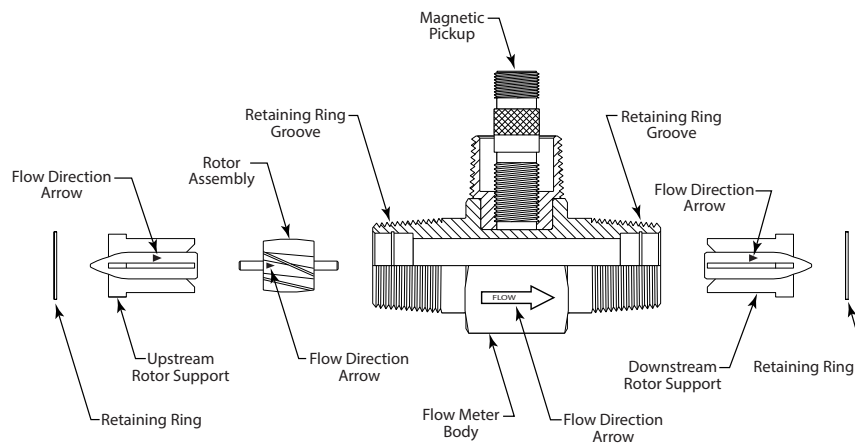
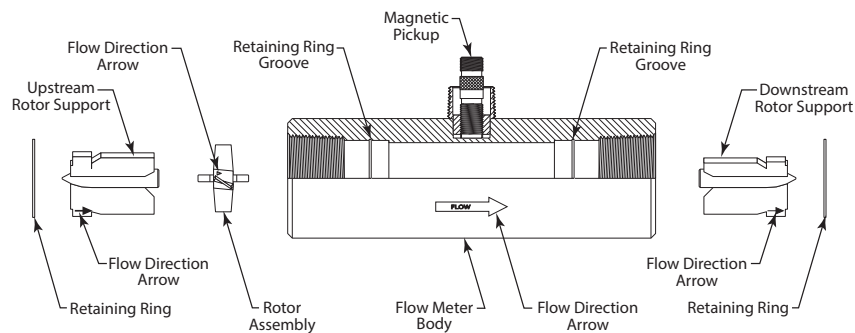
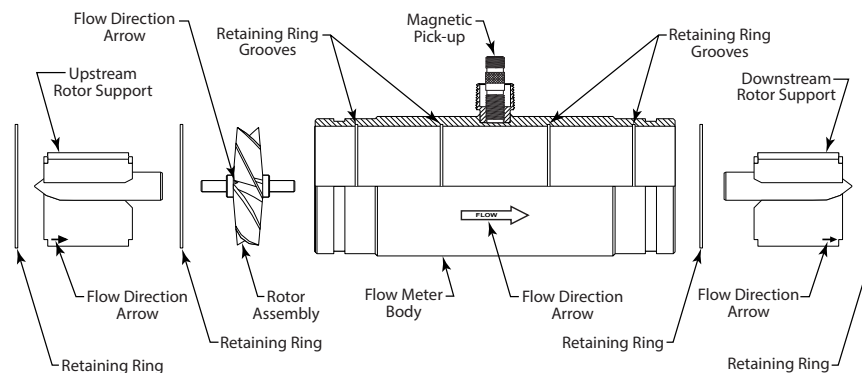

Figure 7: Component positions for BP110-375...BP111-115 and BP111-121
Figure 8: Component positions for BP111-120 and BP111-130
Figure 9: Component positions for BP111-140 and BP111-200
1. Refer to *Figure 7*, *Figure 8* and *Figure 9* for relative positions of repair kit components.
NOTE: 4 in. and larger meters have two retaining rings (one on either side of the rotor) that require removal before the rotor can be removed (see *Figure 9*).
Before reassembly, note that an arrow is cast or engraved on each component. The arrow indicates the primary flow direction. When reassembled, the arrowheads must point in the direction of the fluid flow. The arrows must also be oriented in the up position on both rotor supports. The magnetic pickup side of the body signifies the up position. Performance of repair kit calibration is in the up position. Reinstallation of the repair kit in the up position provides continuation of accurate measurements. Figure 7, Figure 8, and Figure 9 show the proper alignment and orientation of the repair kits.
NOTE: 4 in. and larger meters have a retaining ring at both ends of the rotor (see Figure 9).